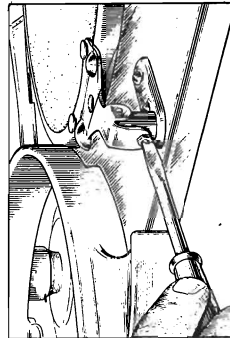

Figure 10—Record transfer lever adjustment
- (c) Improper height of record transfer lever. The small plate on top of the motor board at the left side of the turntable should be so adjusted that it will depress approximately $\frac{1}{8}$ " when the magazine swings over the turntable. When this adjustment is made correctly, the transfer lever will engage the bottom record in the magazine as the latter is swinging back into the playing position. A small adjusting screw and lock nut are provided for this adjustment. See Figure 10.